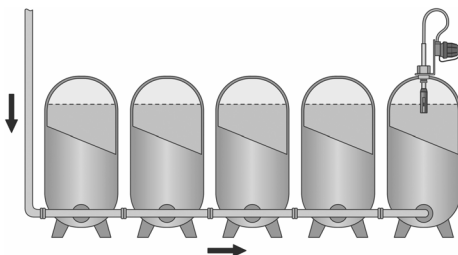

Figure 2: Install the limit indicator on the last tank, when looking in the filling direction.
- Observe the installation location of the GWG pursuant to **figure 2** and **figure 3**!